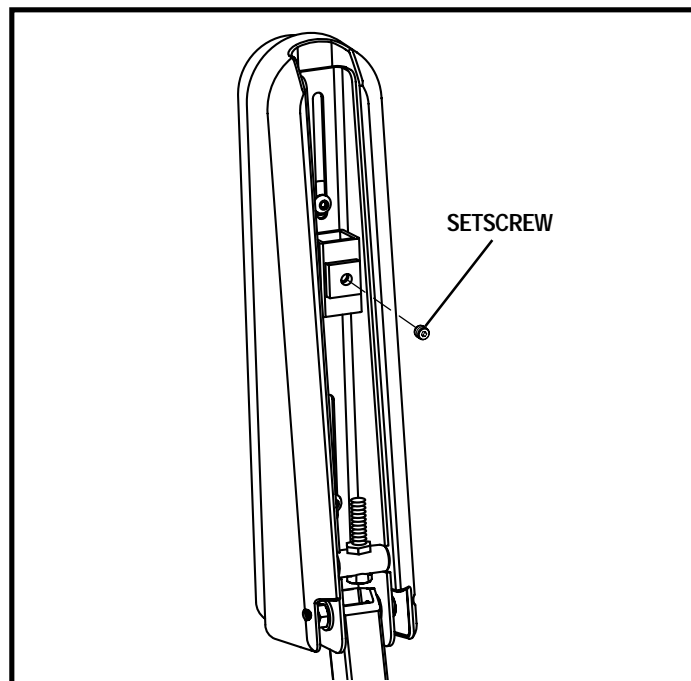

Figure 16. Underside of Armrest
2. Loosen the setscrew on the controller bracket. See figure 16.